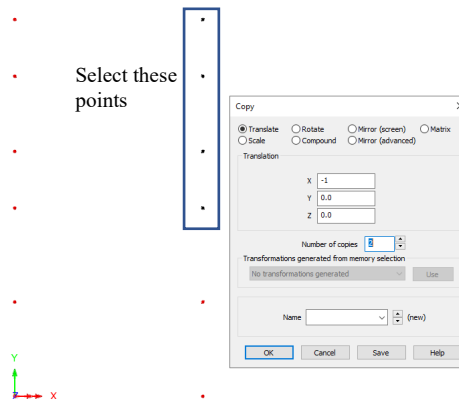

Figure 8: Definition of points for wall and excavation soil
- Select the four nodes shown in figure 8.